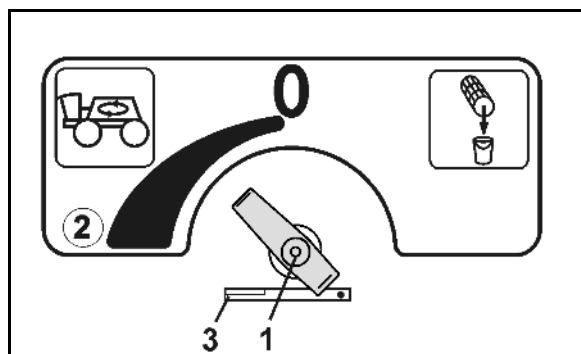

Fig. 73
- The additional agitator must be set on the setting tap (Fig. 73/1).
The additional agitator is switched off when in setting tap position 0. The fastest stirring performance is available in position (Fig. 73/2).
Safety device for drainage function on the pressure filter (Fig. 73/3).